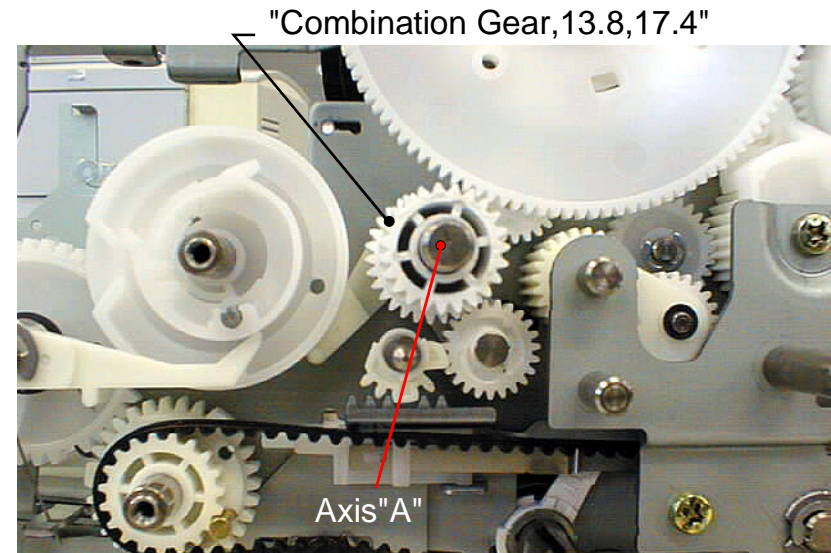

Figure 4-105. Installing "Combination Gear,13.8,17.4"
- 24. Insert "Combination Gear,13.8,17.4" into axis "A". (Big gear side should face to the mechanism frame) (Refer to Figure4-105)